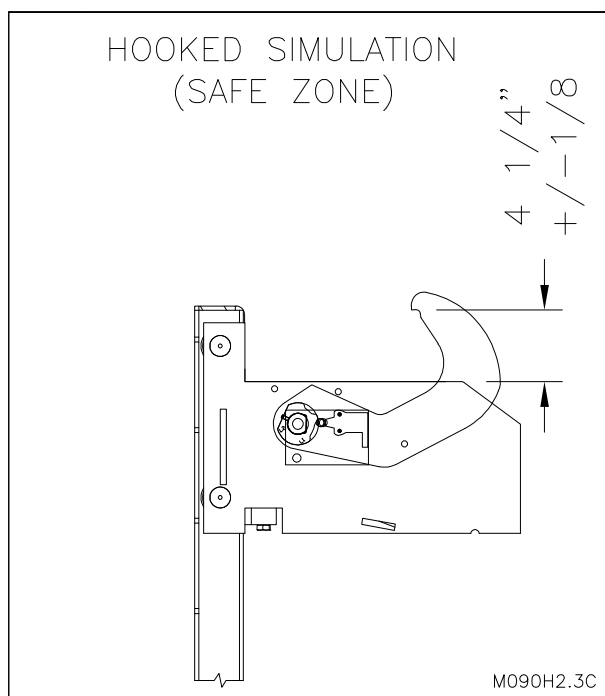

Figure 15: Hook Simulation Safe Zone
3. Insert a 3/8 bolt long enough to span the side plates through hole locations "**B**" (See "Figure 15: Hook Simulation Safe Zone" on page 23). Turn selector switch to "**ENGAGE**". The **inside GREEN** light must be illuminated. The **outside RED** light must be illuminated and the audible alarm must be off. This simulates R.I.G. has been engaged. Return vehicle restraint to the **STORED** position and remove bolt after testing.